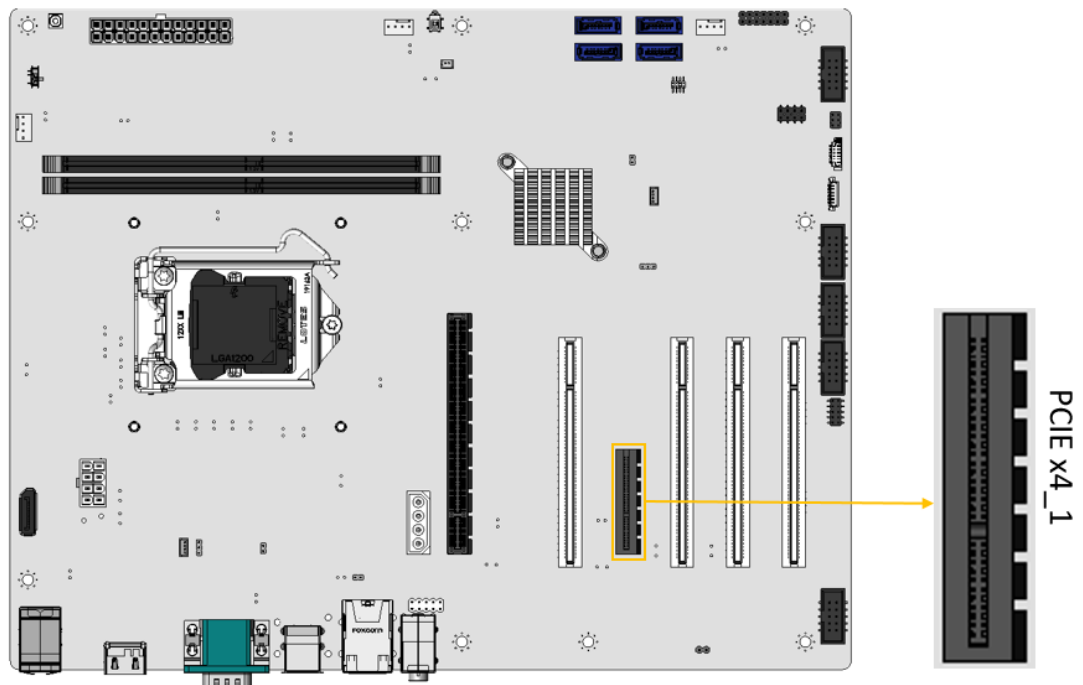

Figure 3-18: PCIe x4 Slot Locations
- CN Location:** See **Figure 3-18**